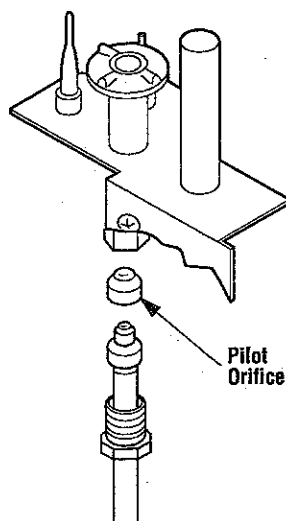

Figure 36
Step 7. Millivolt Appliances - Replace the pilot orifice with the one provided with the kit (Figure 36).